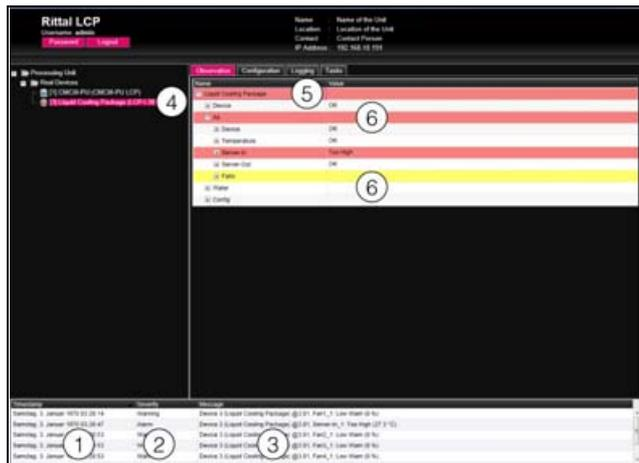

Fig. 68: Layout of message display
1. Timestamp: The date and time when the error occurred (fig. 68, item 1).
2. Severity: Severity of the error. A distinction is made between Warnings and Alarms (fig. 68, item 2).
3. Message: Error message in plain language (fig. 68, item 3).
- Left-hand screen section: The symbol in front of the component on which the error occurred is shown in red in the tree view in the event of an alarm message, and yellow in the event of a warning message (fig. 68, item 4).
- Right-hand screen section: On the **Observation** index tab, the entire component and the specific parameter to which the warning or alarm applies is shown in red or yellow (fig. 68, items 5 and 6).